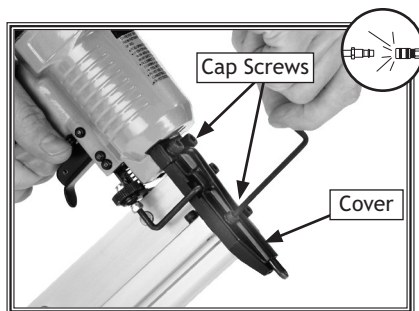

Figure 7. Opening cover to clear a jam.
4. Loosen the cap screws shown in **Figure 7**, and remove the cover with a 3mm hex wrench. Dislodge the jammed nail/staple with a pair of needle nose pliers.